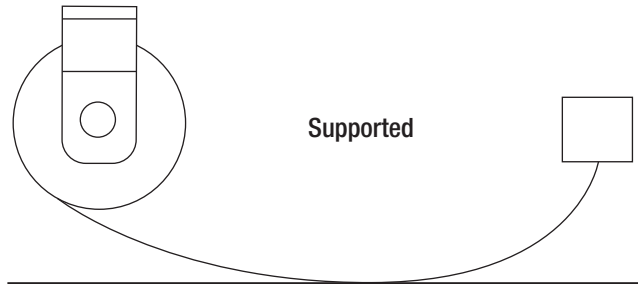

Figure 3-2
3.0.2.1 The reel is mounted on a stationary object and is required to drag the cable over the surface to the reel. The cable is supported by the ground or some type of cable tray. A ball stop may be required. See Figure 3-2.